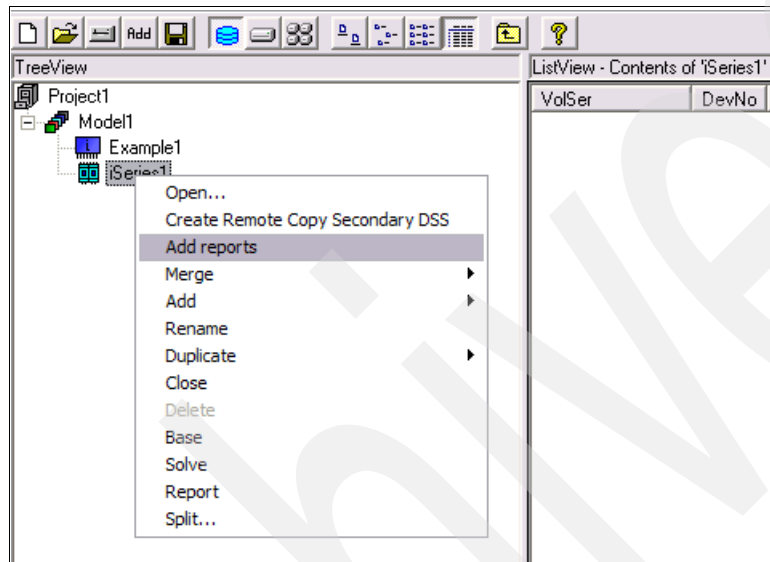

Figure 4-49 Adding reports from the other system
2. After reports of the first i5/OS system are inserted, add the reports for the other system. In the Disk Magic TreeView panel, right-click the disk subsystem icon, and select **Add Reports** as shown in Figure 4-49.